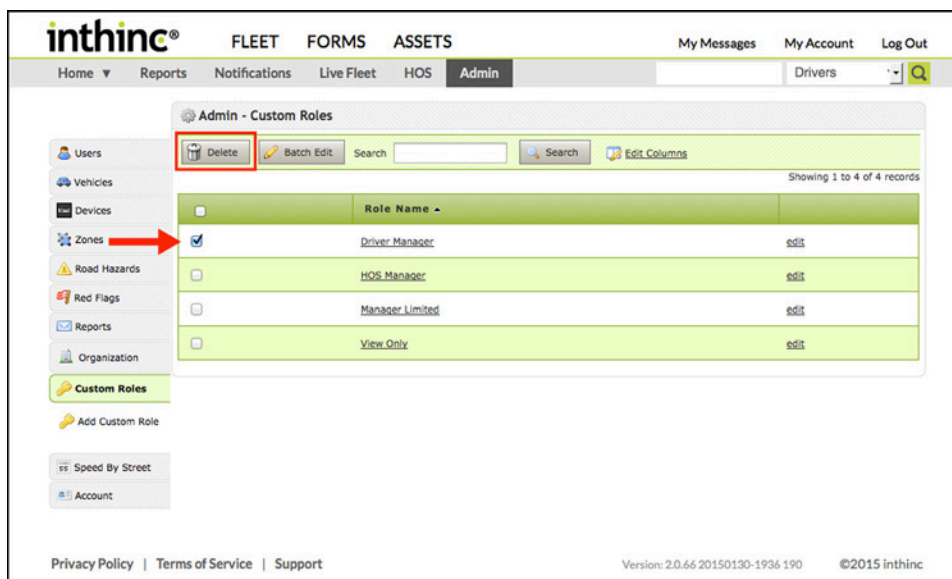

Figure 15 Admin > Custom Roles page with Delete button highlighted
- 1 Go to **Admin page > Custom Role tab**. The Custom Roles page displays. (Figure 15)